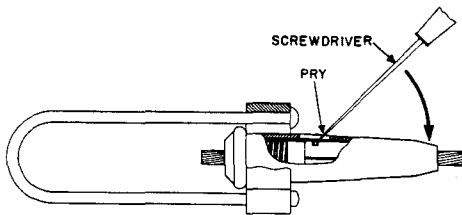

Fig. 30—Releasing Jaws of Strandvise
4.11 To slacken guy, apply tension as described in 4.09. The gripping jaws can be seen by looking through the slot in cartridge of the Strandvise. Using 109E wire or small screwdriver as a pry, hold back washer and jaws while strand is let out as illustrated in Fig. 30. Release tension in hoist to reset jaws. Repeat operation if necessary.